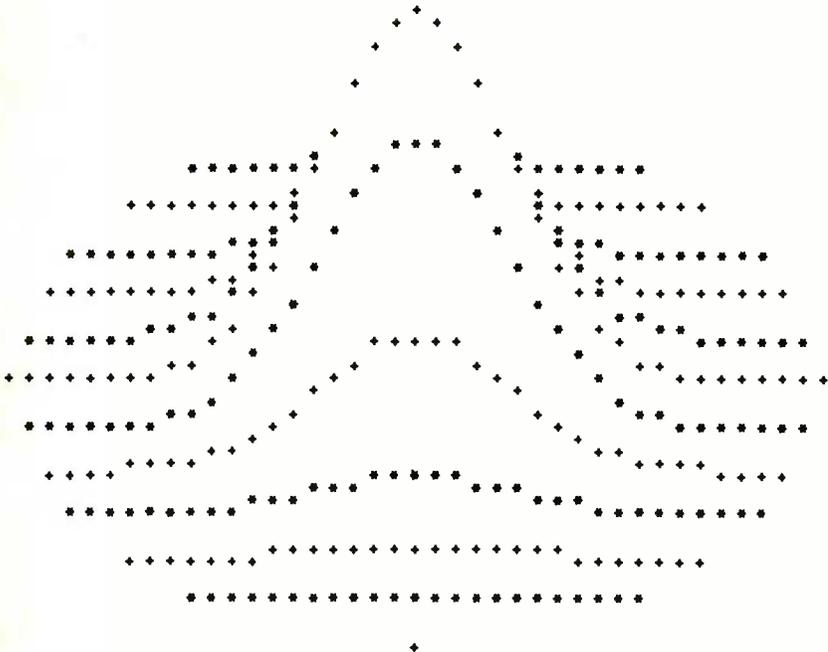
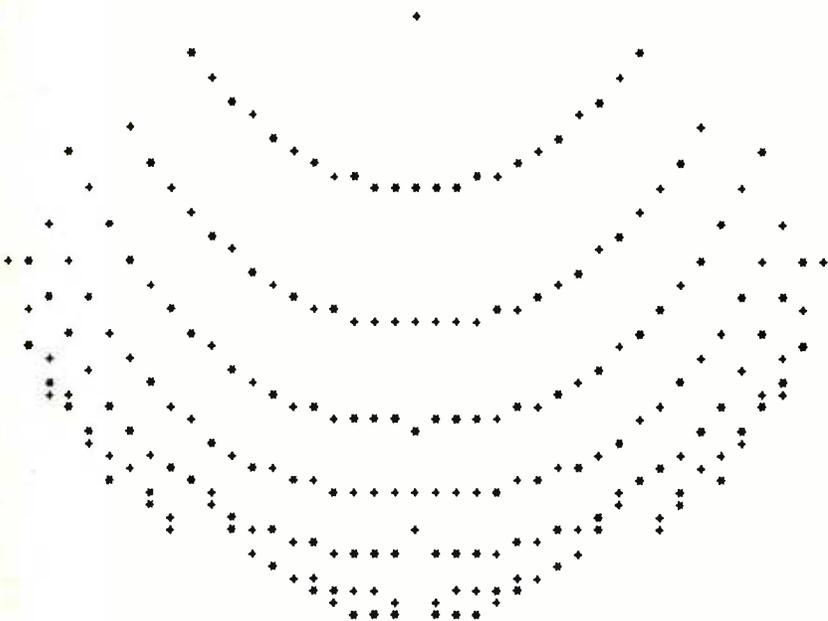

Figure 1: Plot of $Z = -30 * EXP(-f(x,y)^2 / 100)$
Figure 2: Plot of $Z = .001 * (f(x,y)^3 + f(x,y) - 25)$
To change the plotted equation, redefine function A (called FNA in the program) in line 60. Figure 1 shows the plot of the equation given in the program. Figures 2, 3, and 4 show different functions and their corresponding plots. Note that all figures have been rotated left by 90 degrees from the way they are actually printed. ■
Figure 1: Interface circuitry for GRAPH. An astable multivibrator (IC2) provides the pulse train for a hardware repeat function. The authors' keyboard produces a low to high transition strobe (STB) pulse when a key is pressed. This is used to trigger a monostable multivibrator to provide a single pulse keypressed (KP) signal to interface with the IO board used.
The circuit in figure 1 uses a 555 timer (IC2) to generate the repeat pulse train and apply it to the keypressed line. Notice that it is important to gate the pulse train with the original keypressed STROBE DC level from the character generator line so that the oscillator will operate only when a character key is pressed. Otherwise, invalid data will
Another handy circuit is contained in figure 1 (lower lefthand corner). Most keyboards presently available provide a low to high strobe transition to indicate a key is pressed. Many IO boards, however, require a single pulse to latch the valid data. This portion of the circuit in figure 1 converts a DC strobe level to a single pulse output.
Figure 2: Visualization of line starting and ending addresses in GRAPH. This type of information is helpful in understanding the subroutines that check for valid screen addresses. The Processor Technology VDM-1 displays 16 lines of 64 characters per line which reside in 1 K bytes of programmable memory.
Data from any register can be moved to the screen with a MOV M, X (whose X is any register) instruction. The position on the screen is determined by the 16 digit number in the H, L register pair, which in this case would be between hexadecimal CC00 (first screen position) and CFFF (last screen position). Allocations of the starting and ending line addresses, as well as the first invalid address on either side of the screen, are shown in figure 2.